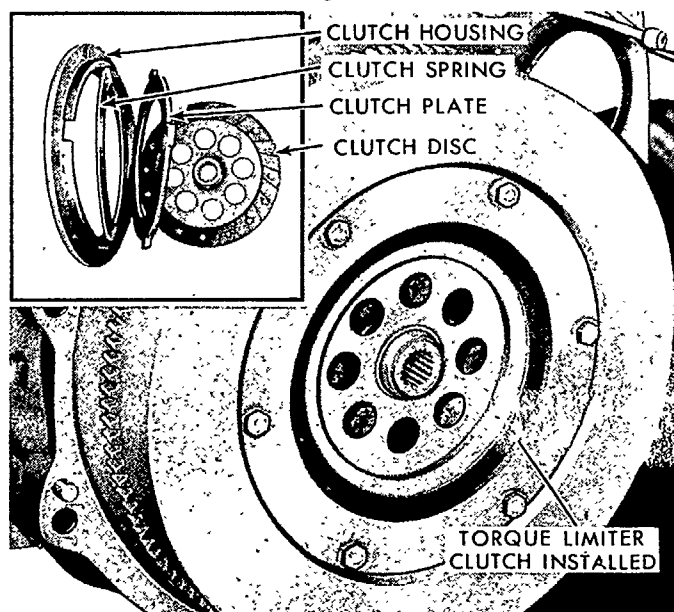

Figure 91
1. Remove the six bolts securing the clutch housing to the engine flywheel while, at the same time, holding the housing so it does not drop from the the flywheel. See Figure 91.
NOTE: The hub of the disc is piloted in the flywheel for proper positioning. Note that the spring washer is assembled with the cup side forward to the pressure plate, Figure 91.